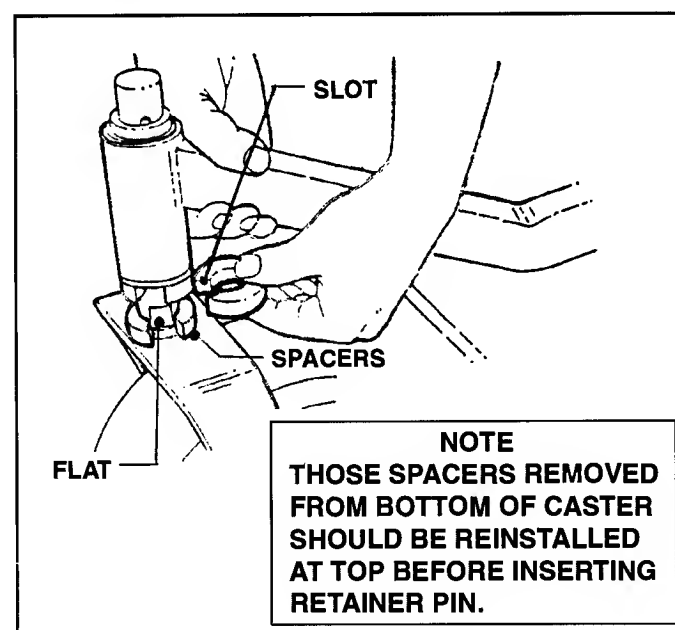

FIGURE 5.20
2. Lift up Caster Support while adding or removing bottom Spacer. See Figure 5.20.